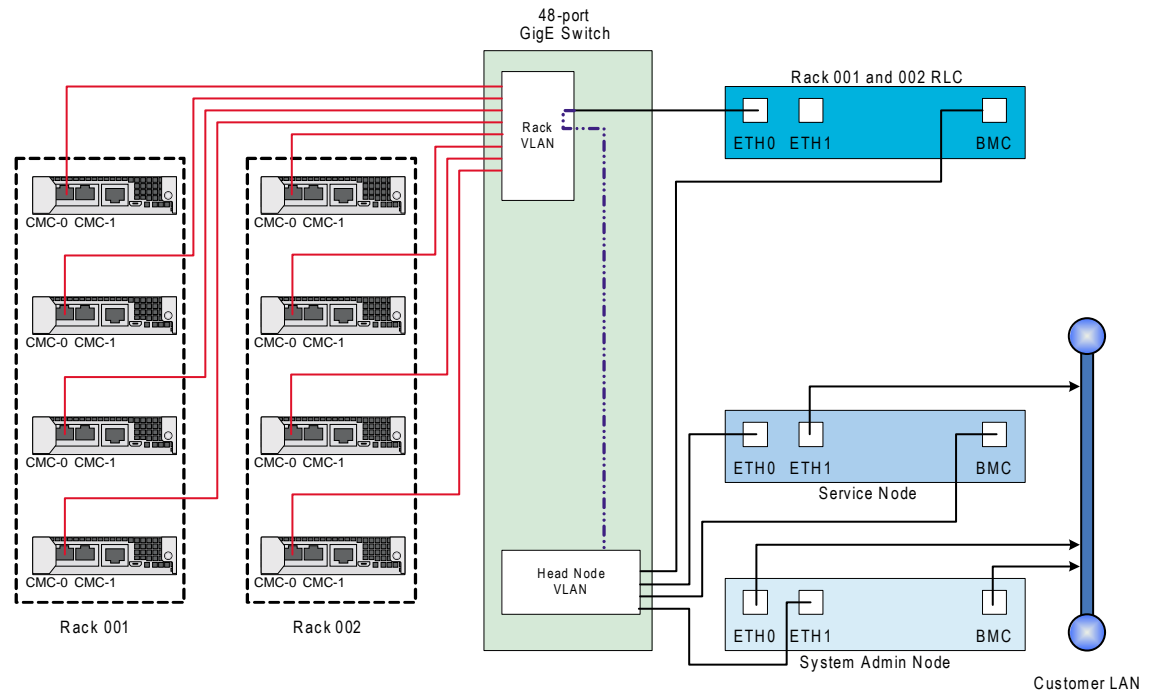

Figure 5-2 Simple CMC LAN (VLAN) Cable Examples
2. Disconnect both power cables, see Figure 5-2 on page 180 for server connection locations.